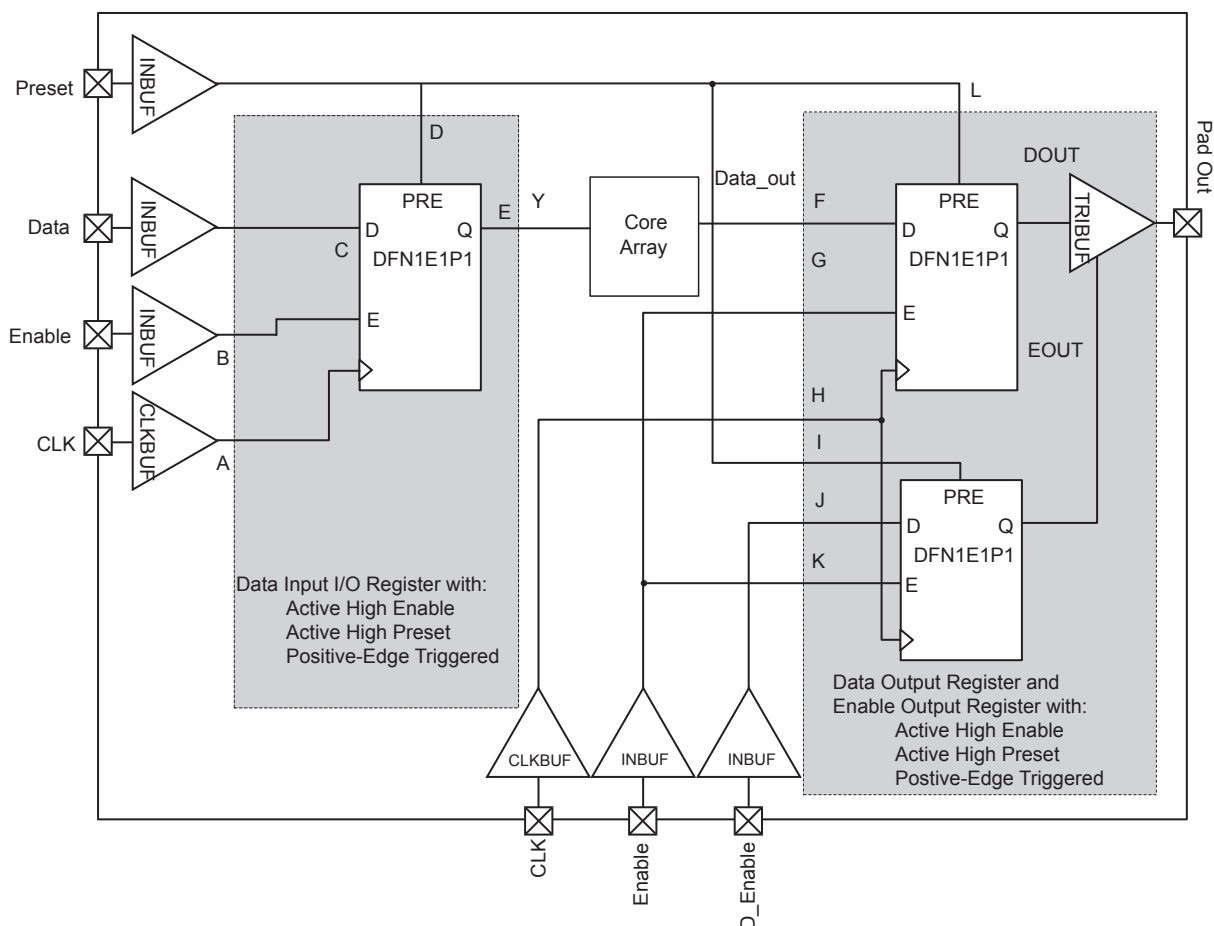

Figure 2-26 • Timing Model of Registered I/O Buffers with Synchronous Enable and Asynchronous Preset
*Note:* See Figure 2-26 on page 2-66 for more information.